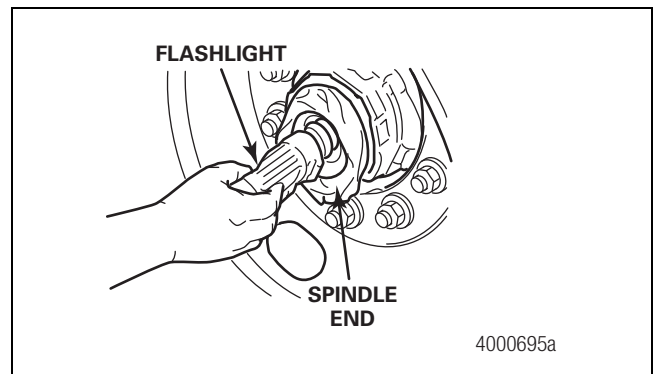

Figure 2.14
9. Check the inside of the axle tube with a flashlight by shining the light into one end of the spindle and looking through the opposite end. Confirm that all debris, including loose rust, scale, liquid and machining residue has been removed. Figure 2.14.